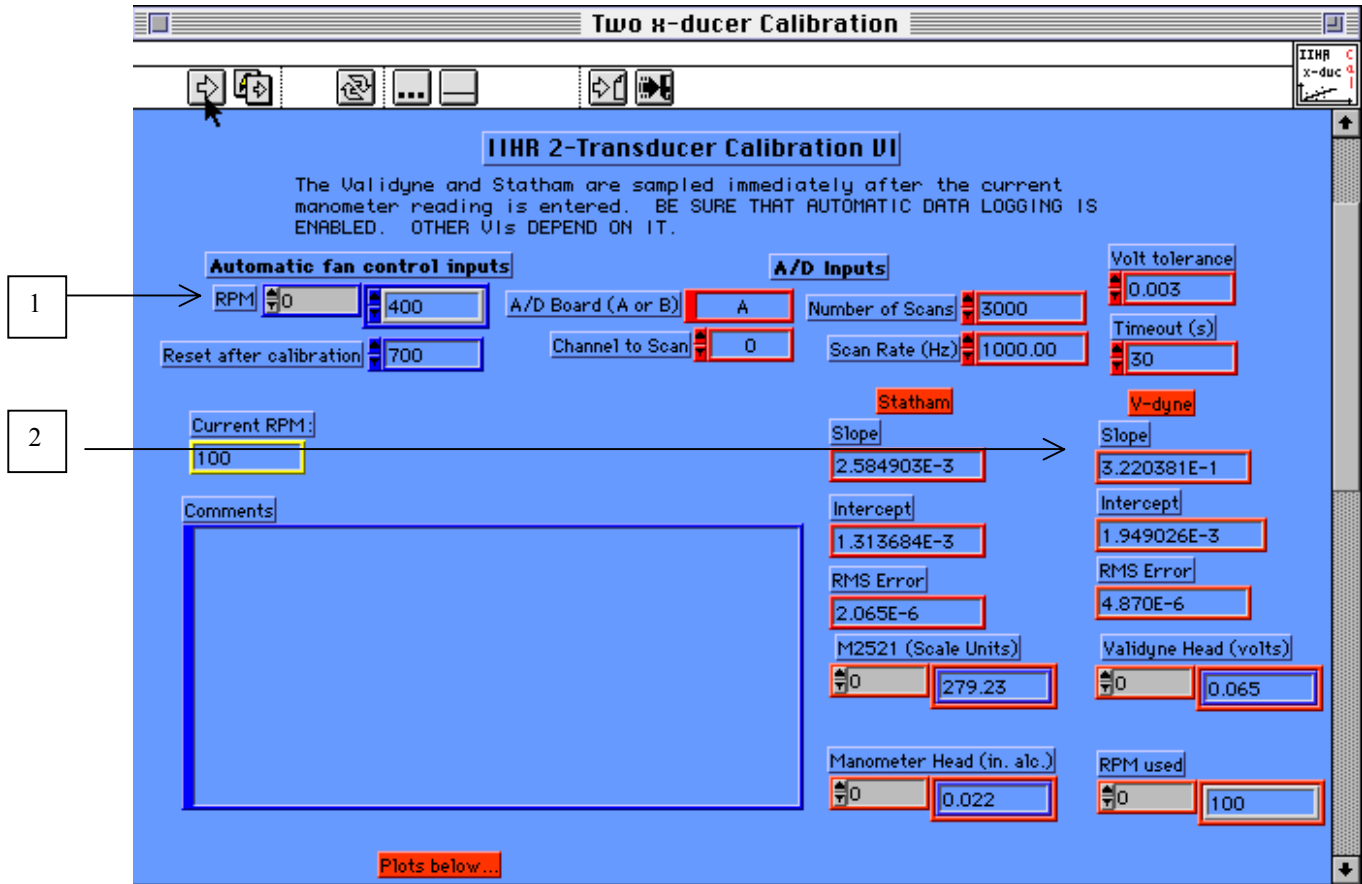

Figure 3. Two x-ducer Calibration VI Screen
- Open on the computer the VI: D:/lv_local_pc/IIHR.lib/IIHR.top/x-ducer.lib/Two-x-ducer calibration (see Figure 3).
The key values to examine on the above screens are the RMS and Intercept values for the VSC (labeled on Figure 3). These should be as small as possible. Typically RMS and Intercept values for the SSC and the VSC run between 10^{-4} and 1×10^{-3} . Remember to scroll downward in the VI to access the calibration curves.